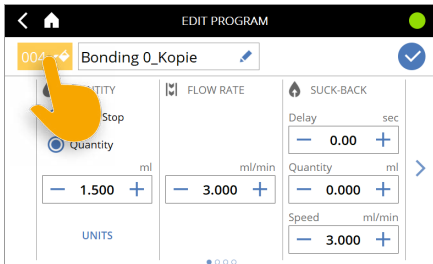
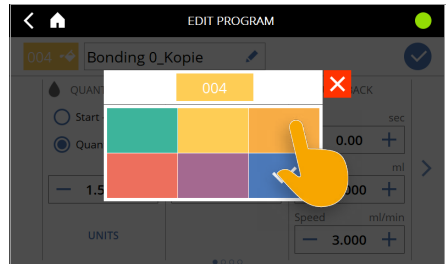

Fig. 55
Fig. 56
- ▶ You can change the colour of the assign with the colour bucket icon (Fig. 55). There is a choice of 5 colours (Fig. 56).